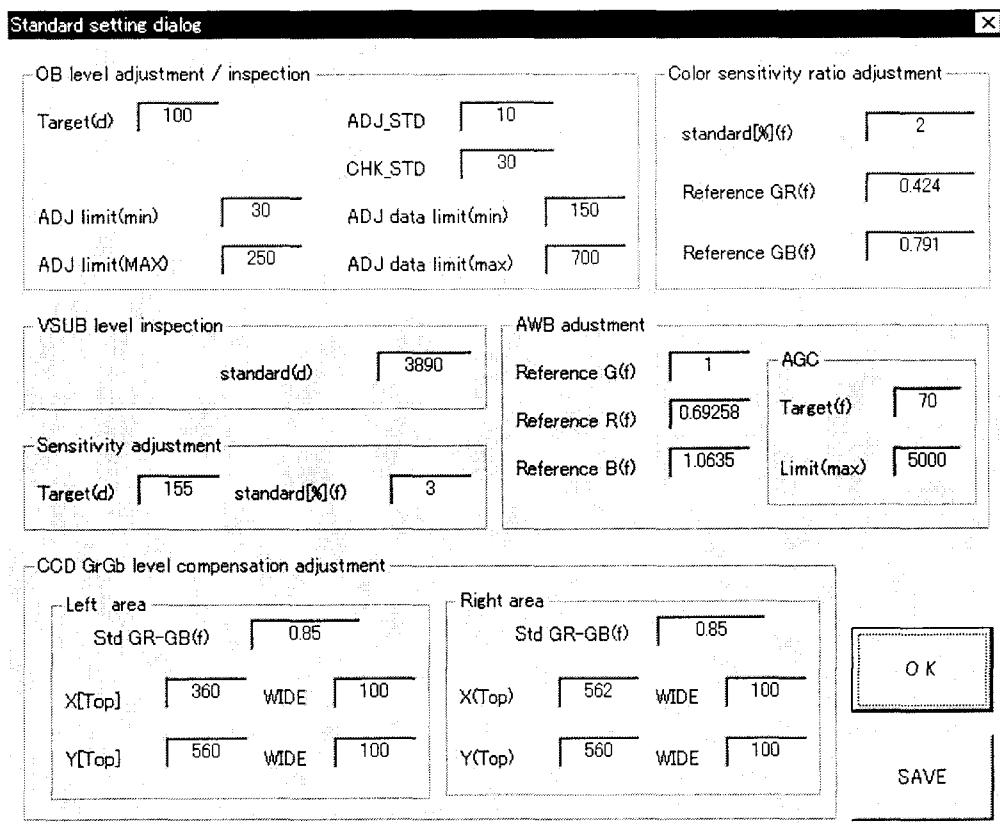

Figure 2 : Standard setting dialog
- (4) Click the "Standard setting" button to start the Dialog (Figure 2).
- (5) Click the "SAVE" button to save the setting value in the file.
- (6) Obtain the Color sensitivity ratio reference value and AWB reference value and save them in the standard setting in the same way.